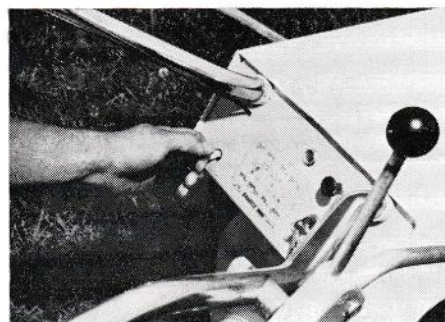

Figure 3
**POWER TAKE OFF HANDLE:** Power attachments must be placed in gear with the High and Low Lever OUT of gear (in neutral). To put the attachment in gear, grasp the Power Take-Off Handle as shown in Figure 3, and pull back until it locks in the proper position.